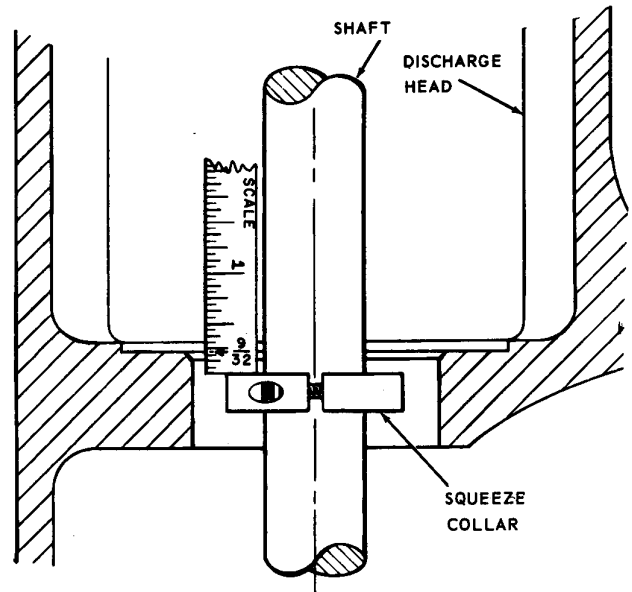

Figure 7. Location of Squeeze Collar
11. Put the gasket (73A) on top of the can assembly (315) and lower the bowl units into the can until the discharge head assembly rests on the can. Bolt the discharge head to the can, making sure the suction and discharge flanges are facing in the correct relative directions.
12. VTM only: Slide the squeeze collar (604) on the shaft and down until the top of the collar is  $9/32 \pm 1/64$  inches from the seal flange seat on the discharge head (304) (see Figure 7) and securely tighten in position. This dimension is critical and is necessary for the proper seal compression.